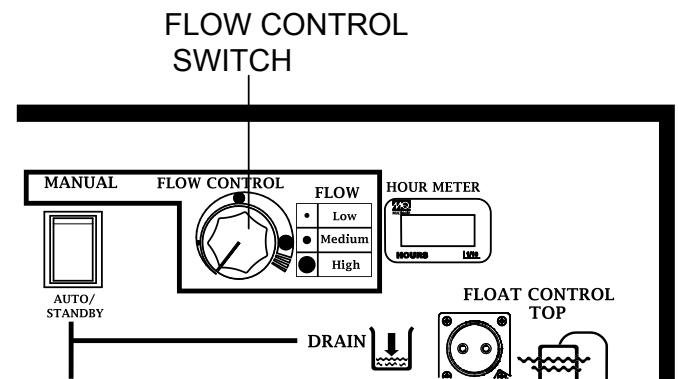

**Figure 11. Starter Switch (START)**
- Turn the starter switch to the **START** position (Figure 11).
3. Turn the starter switch to the **START** position (Figure 11).